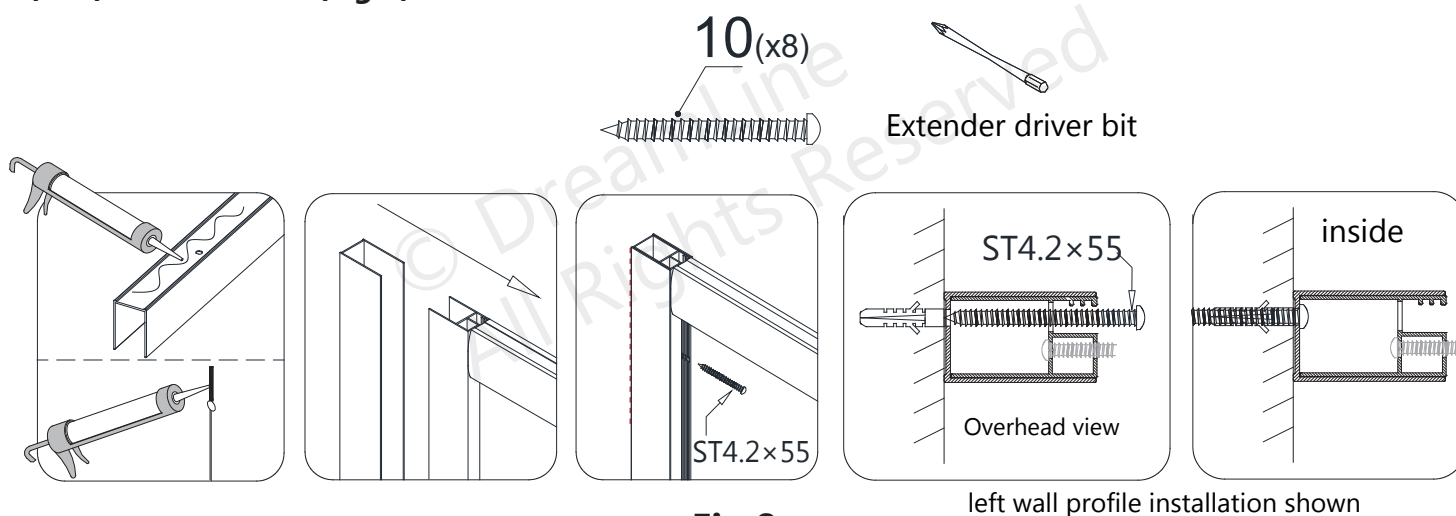

Fig 8
8. Apply silicone caulk to the rear surface of the **Wall Profiles (#02)**, the underside of the **Bottom Guide Rail (#03)**, and around the drilled holes in the wall. Place the entire shower assembly back into the designated position and secure it to the walls using the **ST4.2×55 Pan Head Screws (#10)**. The screws will pass through the larger holes in the **Glass Profile (#01)** and secure the **Wall Profiles (#02)** to each wall. **(Fig 8)**